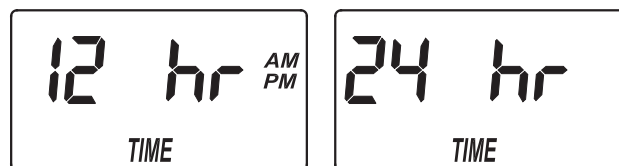

FIG. 26
1. Press and hold the PROGRAM button until the screen in Figure 22 is displayed. Once in this display, press the PROGRAM button three times, and one of the two displays in Figure 26 is shown.